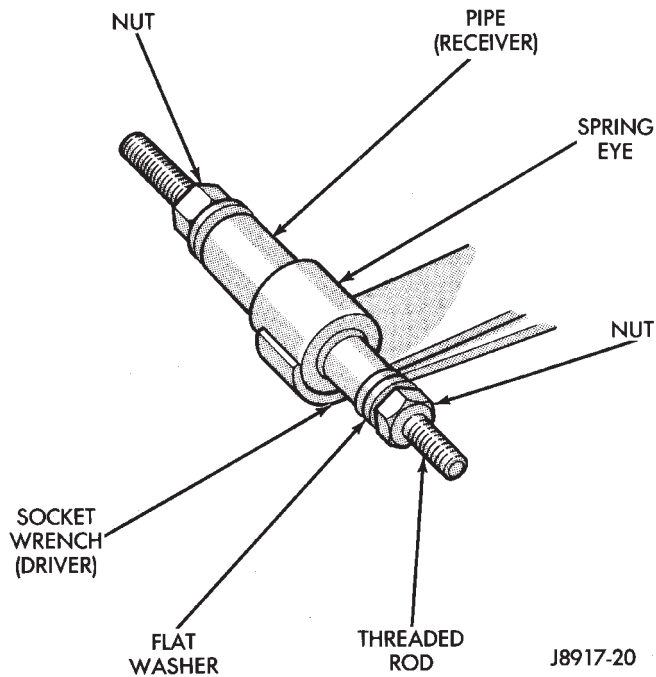

Fig. 2 Spring Eye Bushing Removal
- (1) Assemble tools shown (Fig. 2). Tighten the nut located at the socket wrench end of the threaded rod until the bushing is forced out.
- (2) Assemble and align the bushing installation tools.
- (3) Align the bushing with the spring eye and tighten the nut located at the socket wrench end of the threaded rod. Tighten until the bushing is forced into the spring eye.